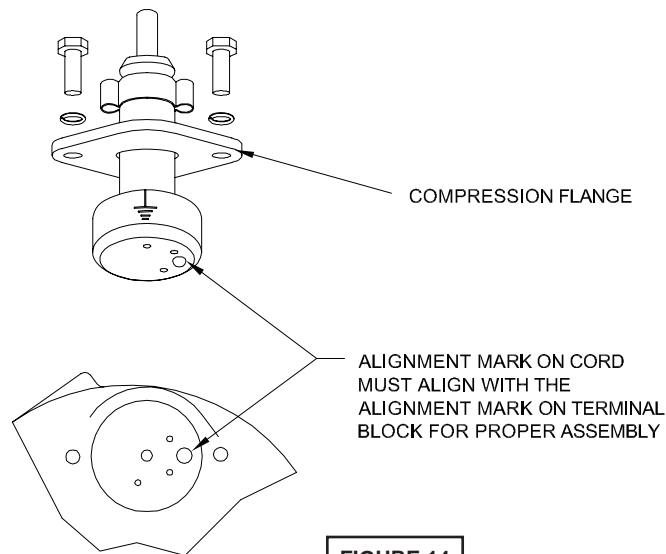

FIGURE 14
Power/Control Cable- Refill the cooling oil as outlined in paragraph F-1.3. Make wire connections as outlined in paragraph F-4.3. Insert female end of cable plug into housing bore aligning timing mark with hole in terminal block (21) see Figure 14. Compress cable plug with compression flange (16a) by tightening hex bolts (11) into the housing (6). Torque